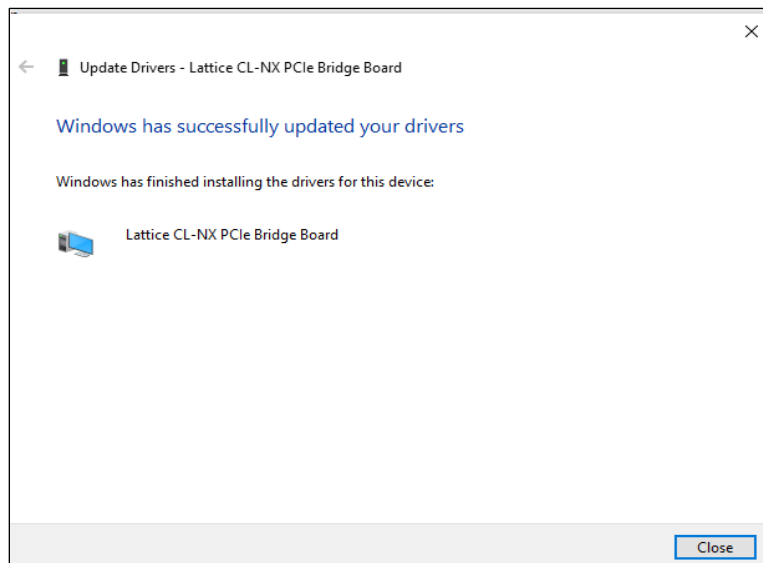
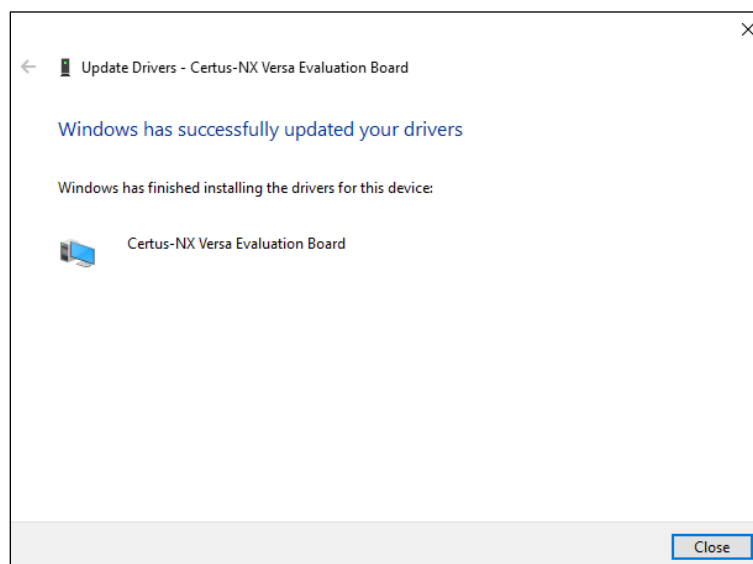
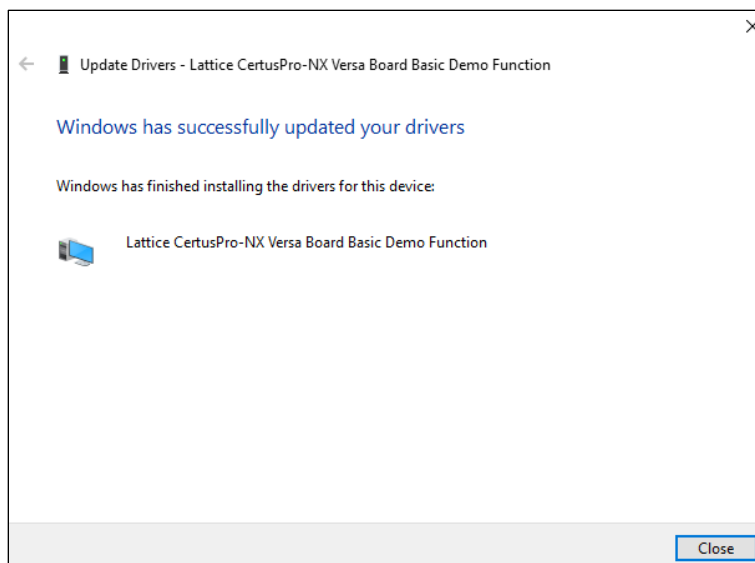

Figure 5.44. Driver Installation Status Message for CrossLink-NX
Figure 5.45. Driver Installation Status Message for Certus-NX
Figure 5.46. Driver Installation Status Message for CertusPro-NX
8. If the driver is installed successfully, a message is displayed as shown in Figure 5.44 for CrossLink-NX, Figure 5.45 for Certus-NX, and Figure 5.46 for CertusPro-NX.